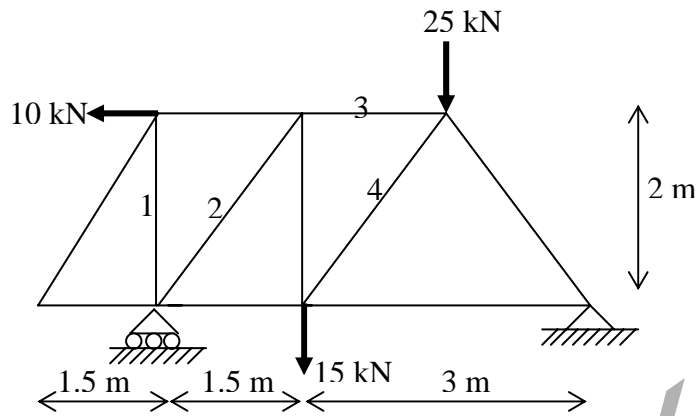

Figure 8
8. Using the method of sections, determine the forces in the members 1,2,3 and 4 of a plane truss supported and loaded as shown in figure 8. [16]